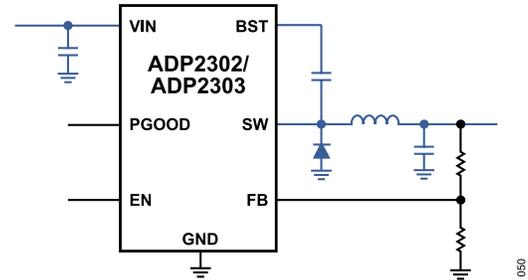

Figure 52. Typical Application Circuit with High Current Lines Shown in Blue
- ▶ Ensure that the high current loop traces are as short and wide as possible. The high current path is shown Figure 52.